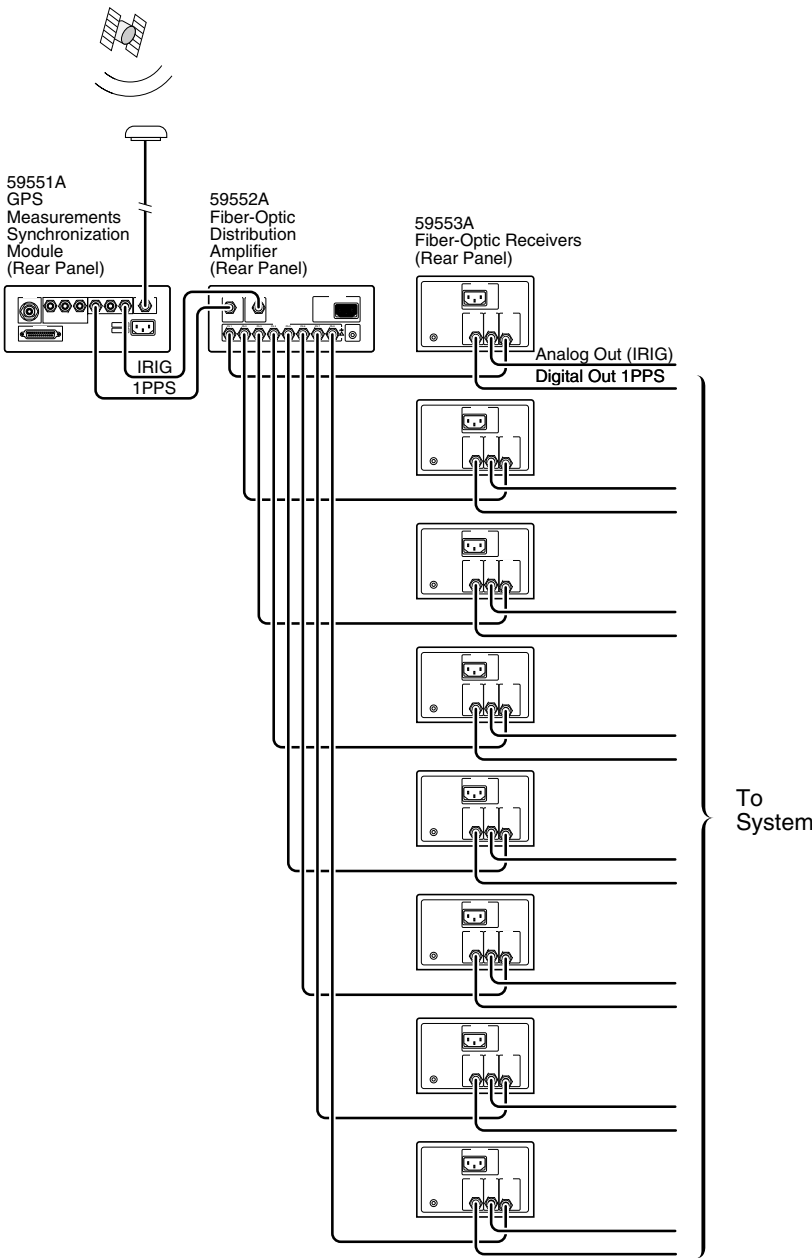

Figure 2-12. Two-Signal Combined Mode Hookup (Using Eight 59553As)
- 4 Now, connect the units as shown in Figure 2-12.